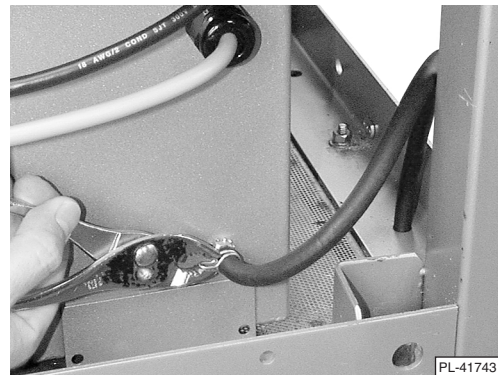

Fig. 3
4. Thread hose up through knockout hole (Fig. 3).
8. Slide the clamp up the hose and place it within 1/4" (0.653 cm) of the hose end (Fig. 3) to ensure a proper seal.